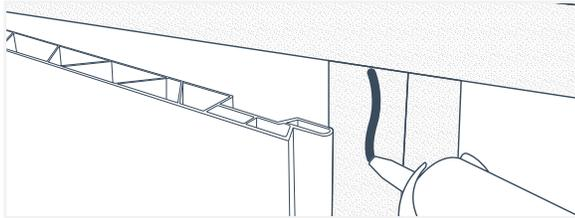

Fig. 43
7. Lift the tongue of the existing adjacent panel and apply a 1/2" thick bead of silicone along the stud behind it (Fig. 43).